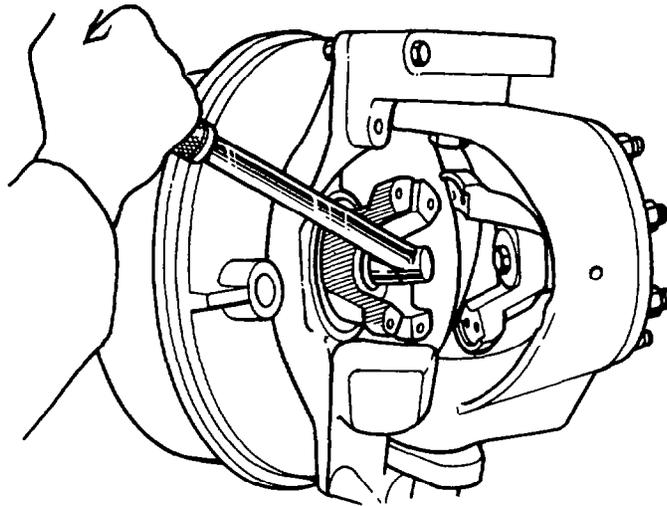

Fig. 367 — Removing Centre Bolt
- f. Rotate the drive-end to its full lock position then remove the bolt securing the outer drive-shaft to the drive yoke (see fig. 367).